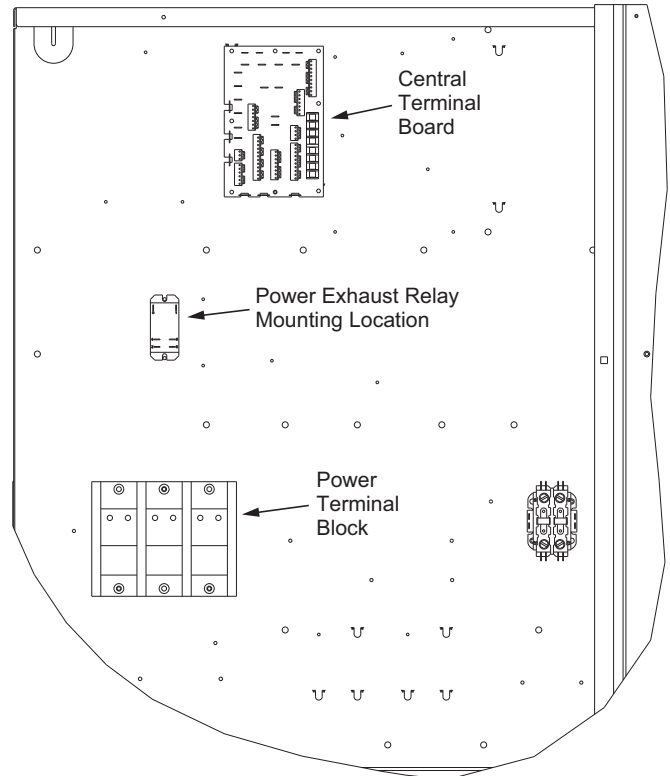

Fig. 4 — Power Exhaust Relay Installation (Belt Drive Fan Units)
4. Install the Power Exhaust Relay (PER) in the control box, at the position shown in Fig. 1-3 for vane axial units and Fig. 4 for belt drive fan units, using two 8-18 in. x 1/2 in. pan head screws (AL56AU166).